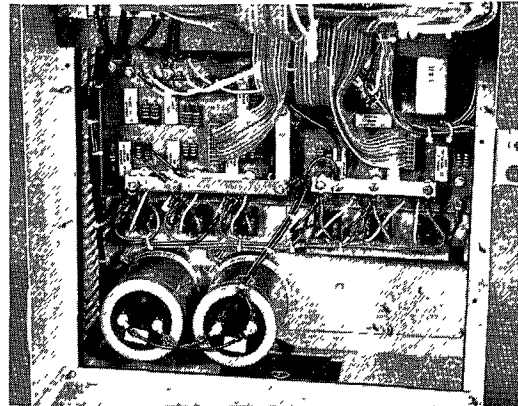

FIGURE 35
2. Remove the screws, lock washers and ring terminals (P2 and N1) on capacitor 1CF. (see Figures 35 and 36)